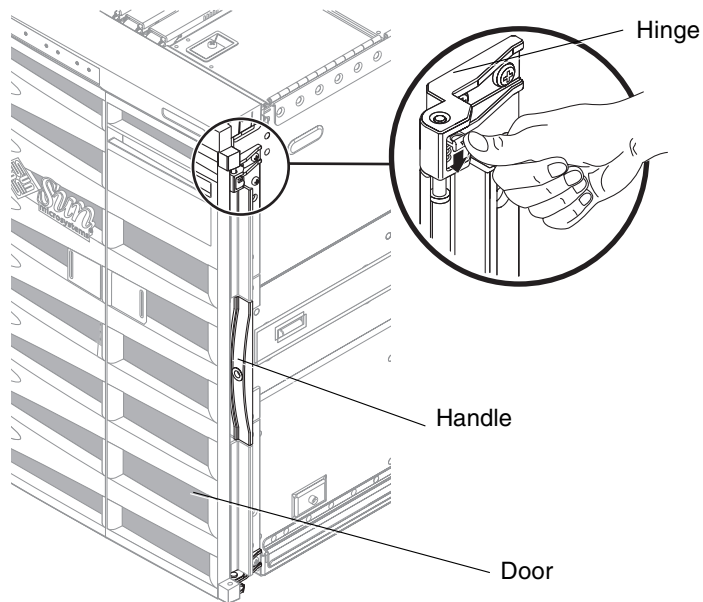

FIGURE 13-1 Bezel Hinge Release Mechanism
5. **Remove the appropriate front bezel door (FIGURE 13-1). Release the two hinges on each section of the bezel by pressing down on the hinge pin levers.**